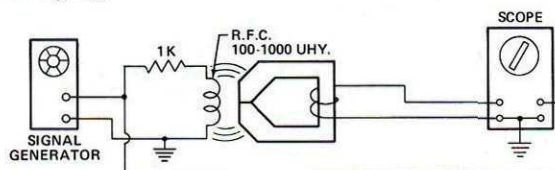

Fig. 8
**A.C. Phase Check.** It is possible to verify the relative phasing of the coils on a multi-channel head by exciting the head pole faces with coil and observing the Lissajous pattern from the exciting and picked up voltages as displayed on an oscilloscope. A reversed coil will flip the pattern 90 degrees. This method does not work well with double-gap erase heads or for specifying absolute phasing between various heads (see Fig. 8).